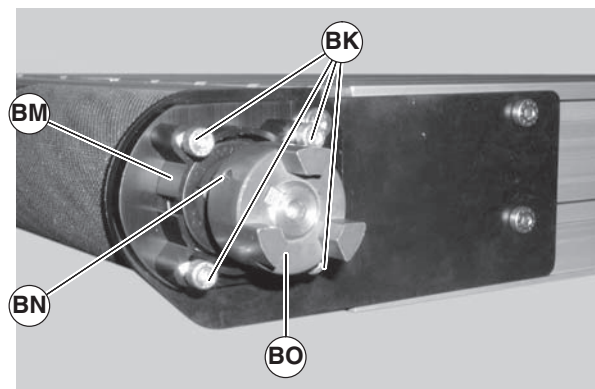

Figure 47
- d. Remove the four (4) lock screws (Figure 47, item BK) and the short side drive guard (BM).
2. Loosen set screw (Figure 47, item BN) and remove 3-jaw coupling (BO).